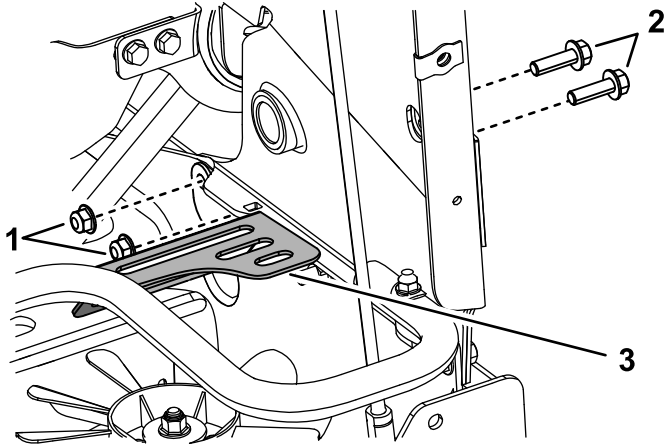

Figure 30
- 4. Thread-forming bolt (2)
15. Remove the 2 bolts and 2 nuts from the right side of the machine and use them to install fan guard (Figure 30). Torque the bolts to 37 to 45 N·m (27 to 33 ft-lb).